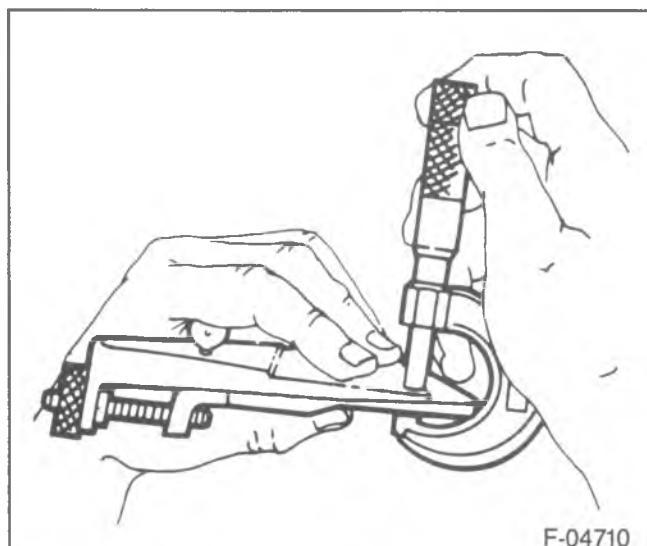

Figure 39—Measuring the Gage Plate Thickness
9. Measure J-22779 in three places using a micrometer. Average the readings (figure 39).